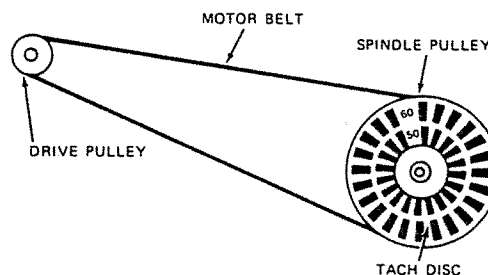

FIGURE 4. MOTOR SPEED ADJUSTMENT
- b. Turn the pot R-12 located on the motor control PCB until the dark lines on the spindle pulley appear motionless. For 60 HZ use the outside ring of lines for the 50 HZ observe the inside ring. Reference figure 4.